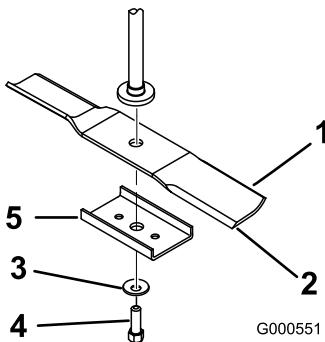

Figure 50
- Remove the blade bolt, the curved washer, the blade stiffener, and the blade from the spindle shaft (Figure 50).
2. Install the blade stiffener, the curved washer (cupped side toward the blade), and the blade bolt (Figure 50).
1. Install the blade onto the spindle shaft (Figure 50).